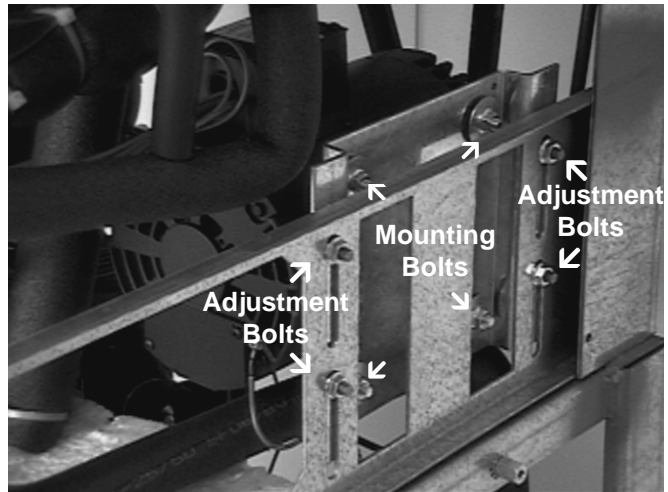

Figure 50. Drive Motor Removal
1. Install the fan motor through the top of the freezer (Figure 50) and position in place.